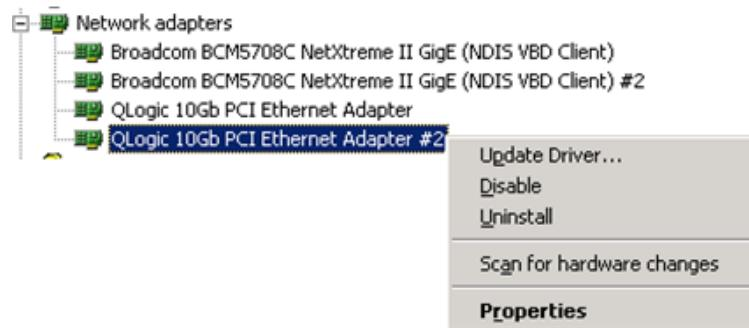

Figure 3-10. Updating an NIC Driver
- b. To update the driver, right click **Ethernet Controller**, and then click Update Driver (Figure 3-10).